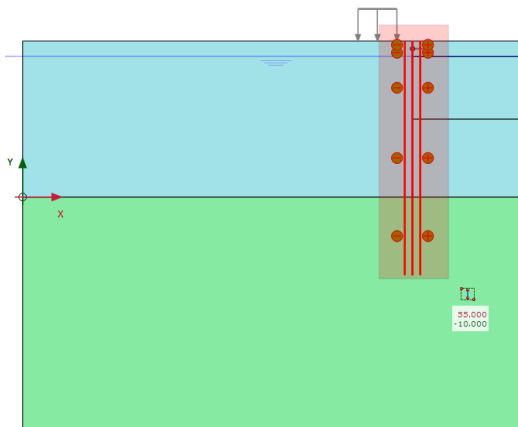

Figure 2.9 Multi-selection of plates in the draw area
- In the draw area define a rectangle including all the plate elements (Figure 2.9).